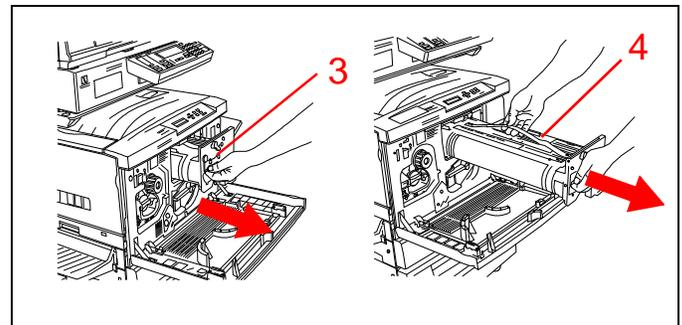

Figure 29
3. See Figure 29. Place a hand in the peach colored hand hold and pull the drum cartridge partly out of the copier/printer.